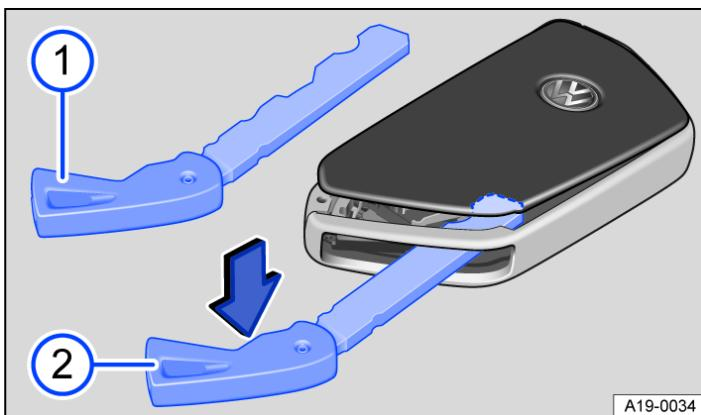

Fig. 1 Vehicle key: opening battery compartment cover.
- Remove the spare key → Fig. 1 ① (Vehicle key).
- Insert the spare key in the slot → Fig. 1 ②, press in the direction of the arrow and lever off the cover.